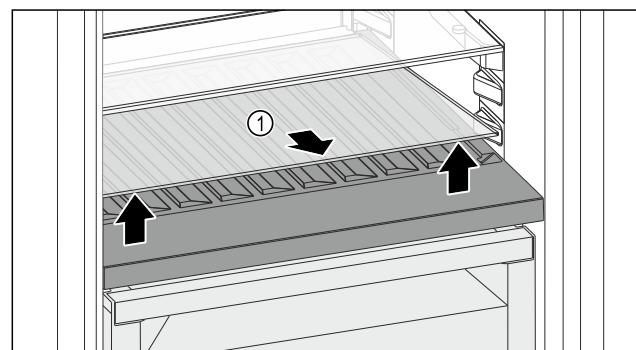

Fig. 84
- ▶ Lift the glass shelf Fig. 84 (1) at the front and remove.
- ▶ Store the glass shelf Fig. 84 (1) in a safe place outside the appliance.